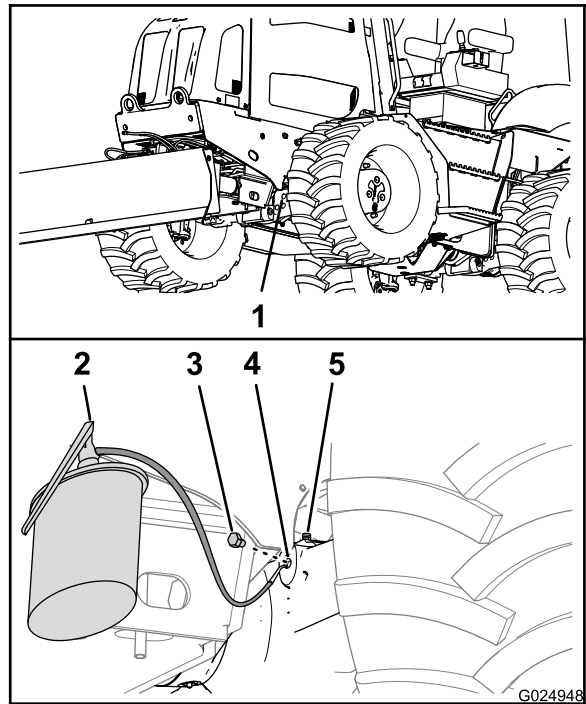
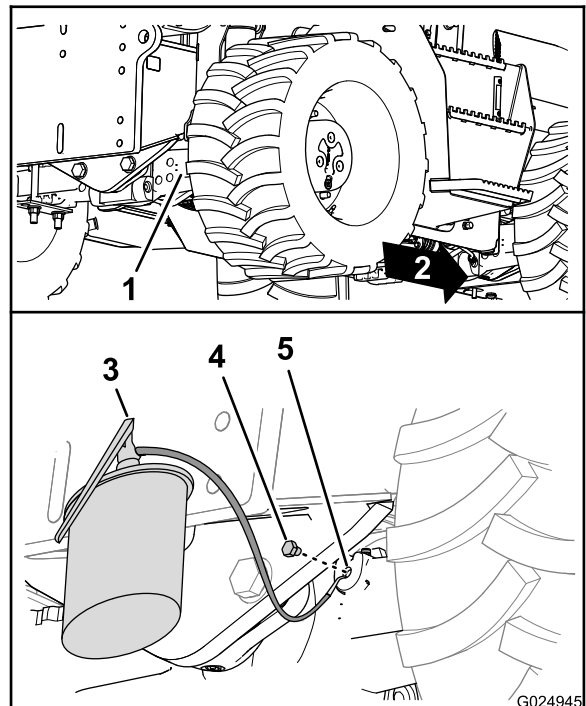

Figure 95
Figure 96
5. Install the drain plugs into the drain ports at the pinion housings (Figure 95 and Figure 96).
6. Fill the axles with the specified oil through the sight port until the oil is level with the threads at the bottom of the port (Figure 95 and Figure 96).
8. Install the fill plugs into the sight ports of the pinion housings for the axles (Figure 95 and Figure 96).